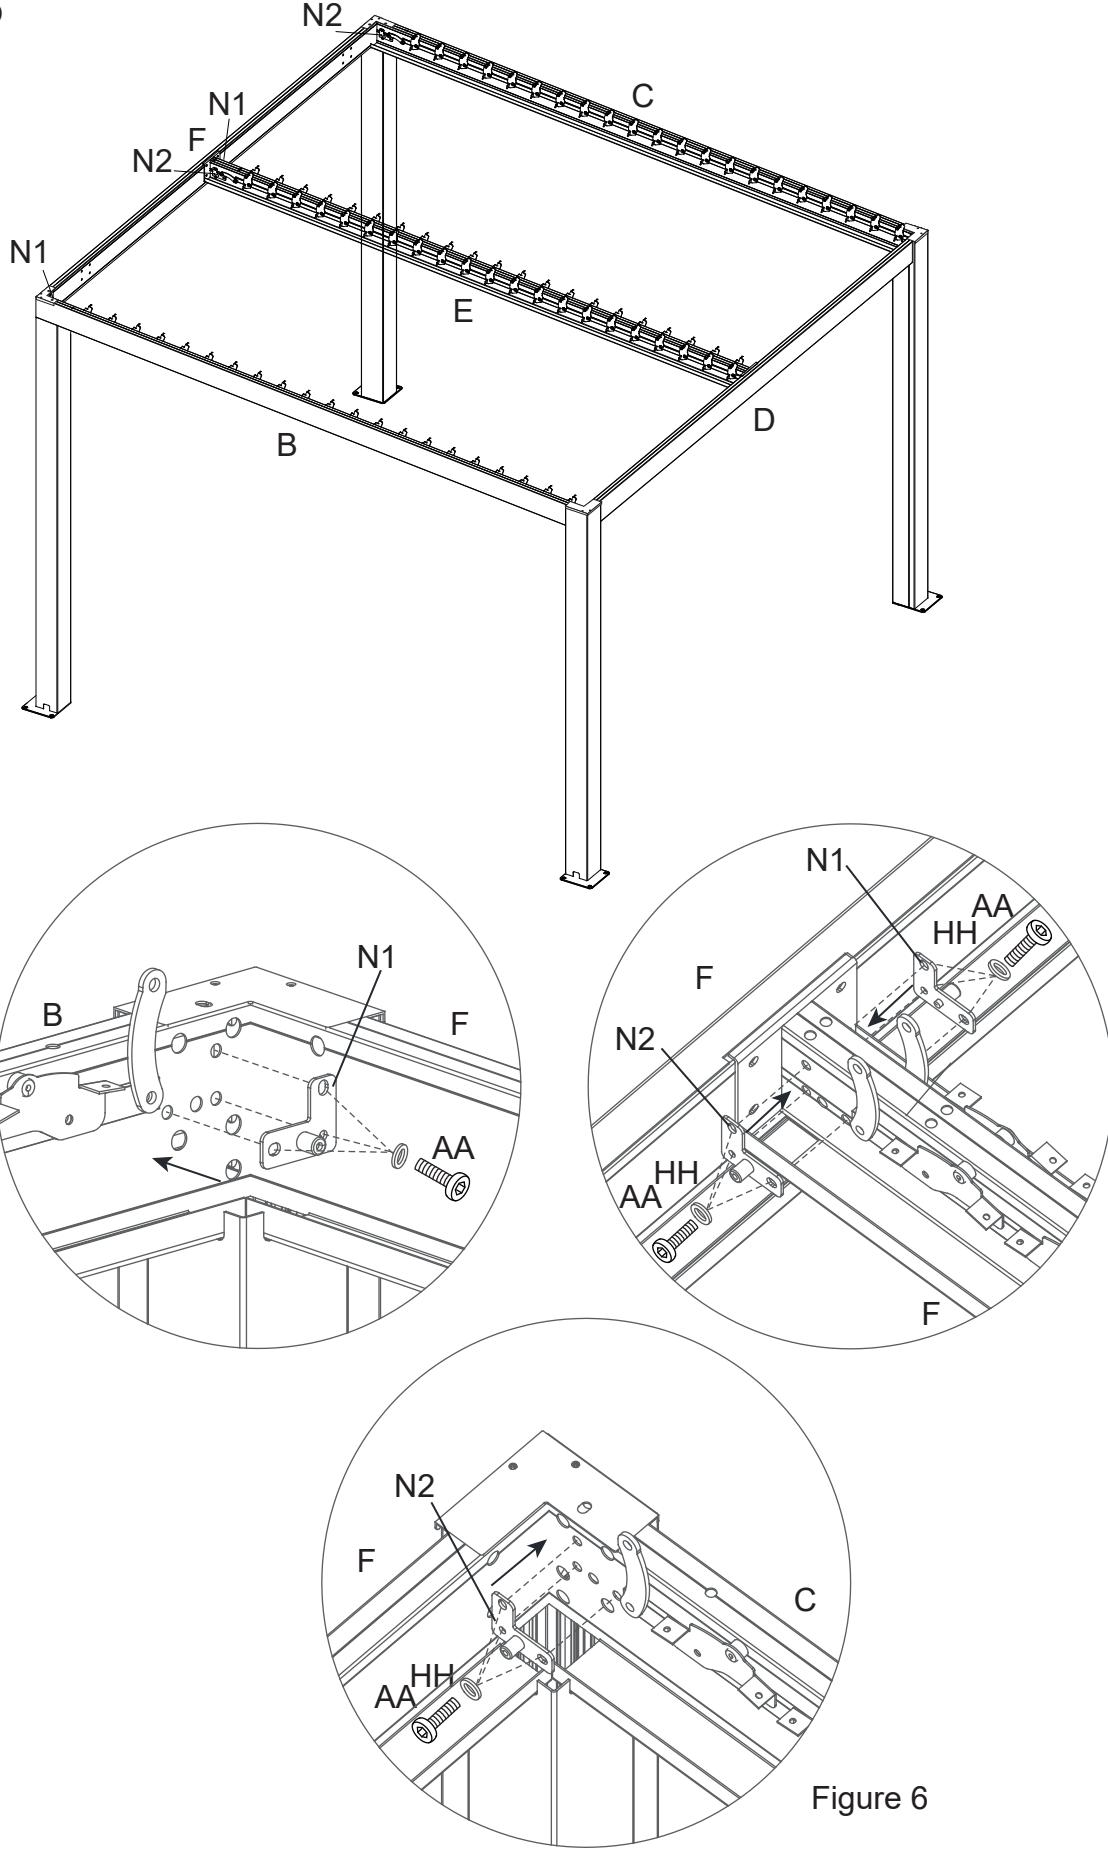

Figure 6
6. Attach the Rocker Connector (N1/N2) to the LIntels (B/C/E) using Bolts (AA) and Washers (HH). See Figure 6.